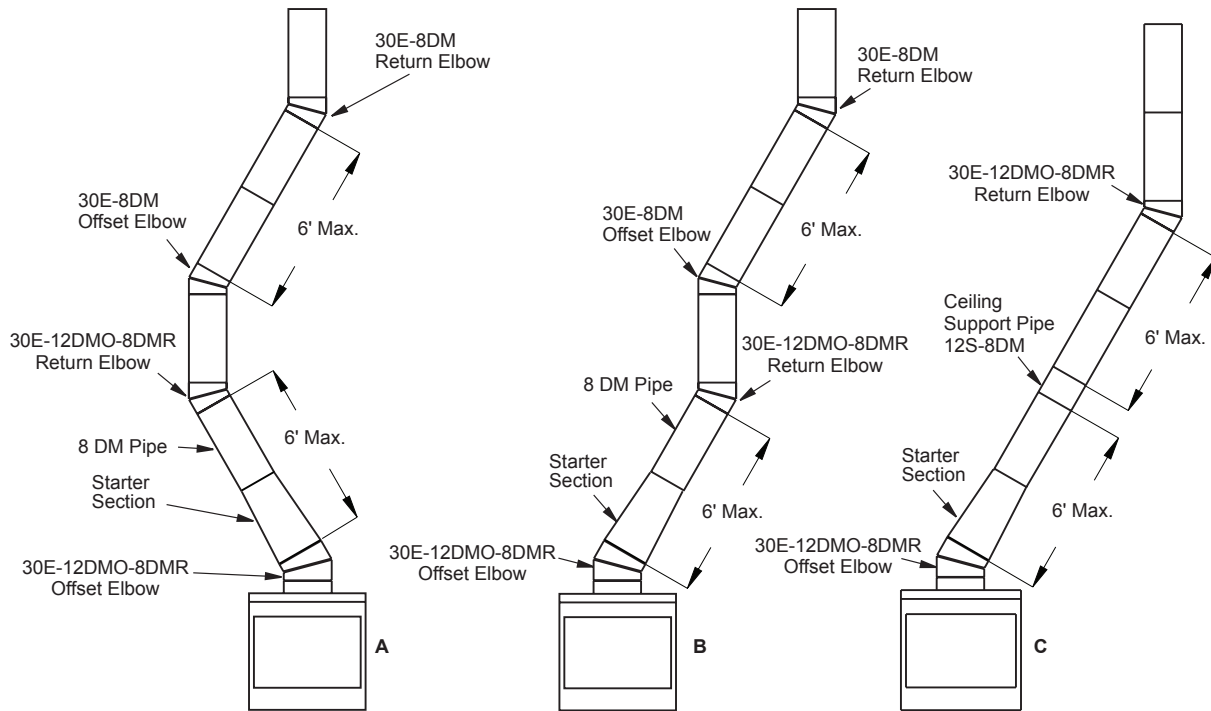

Figure 8 - Typical Offset Installation
3. Maximum length of pipe between supports (return elbow or 12S-8DM) is 6' of angle run. Maximum of two 6' angle run sections per chimney system (see Figure 8, page 9).